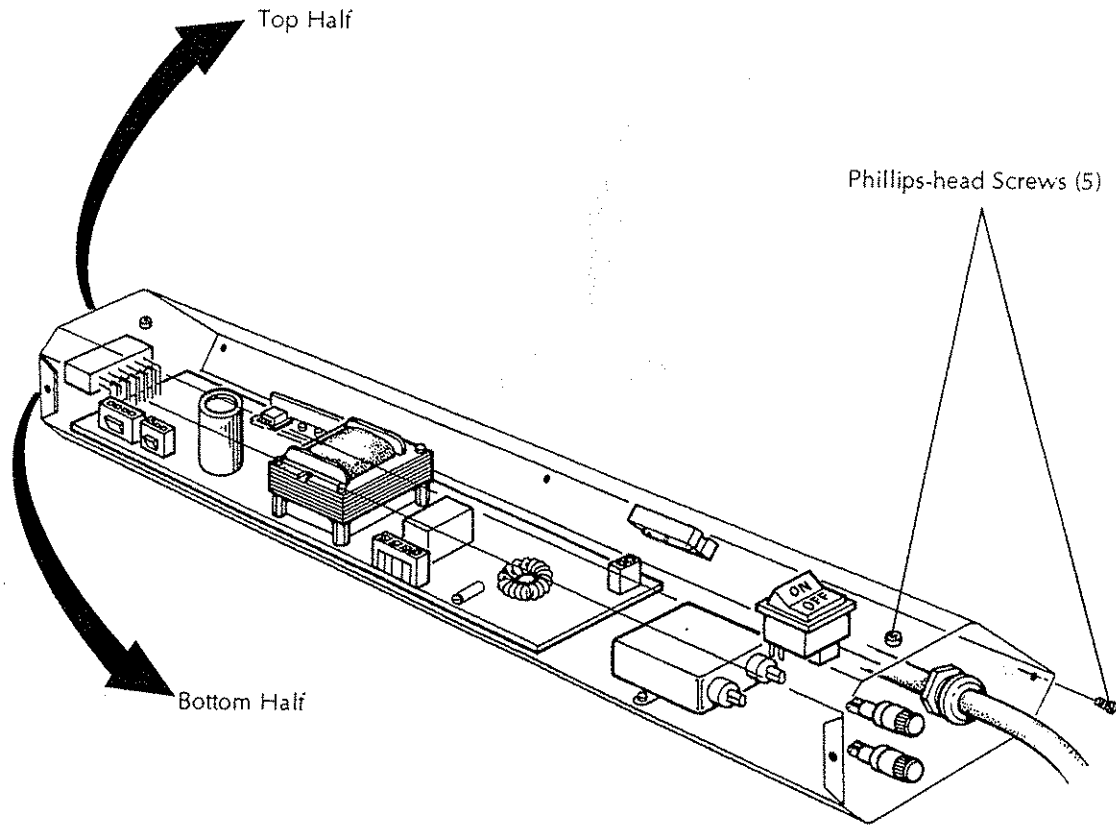

Figure 5-3: Separating the Relay Box Sections
5. Remove the five Phillips-head screws securing the two sections of the relay box assembly. See Figure 5-3.